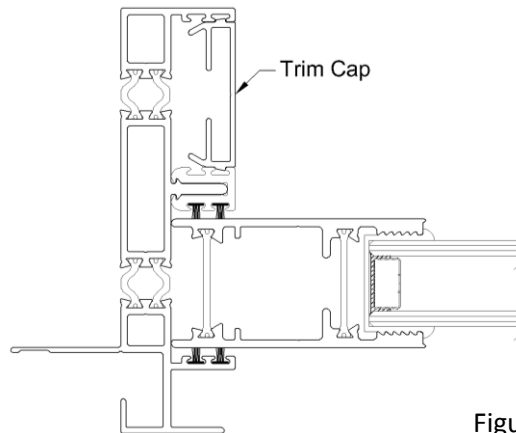

Figure 13c
22. Install the remaining trim caps into the interior jamb tracks shown in figure 13c.